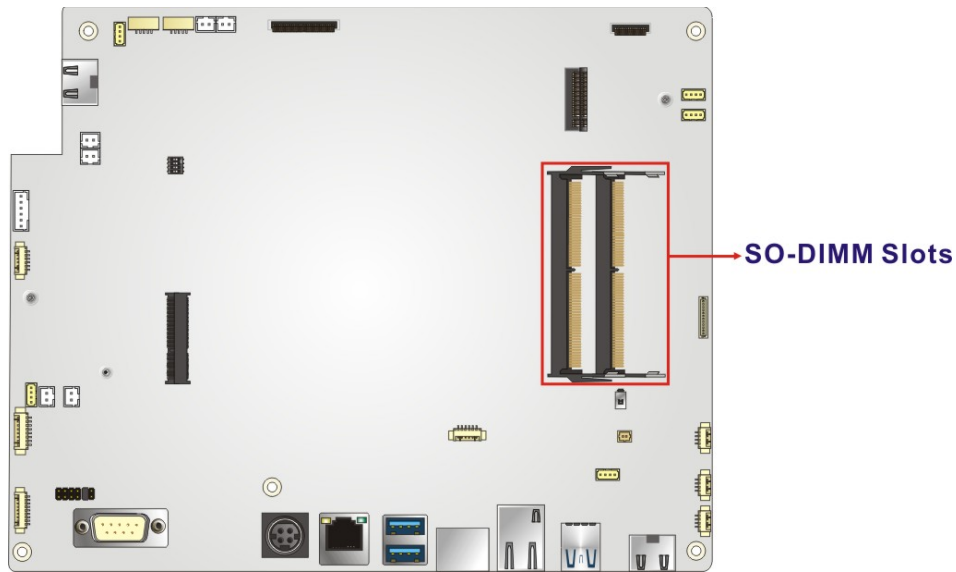

Figure 6-5: SO-DIMM Slot Locations
Step 2: Locate the SO-DIMM slots (**Figure 6-5**).